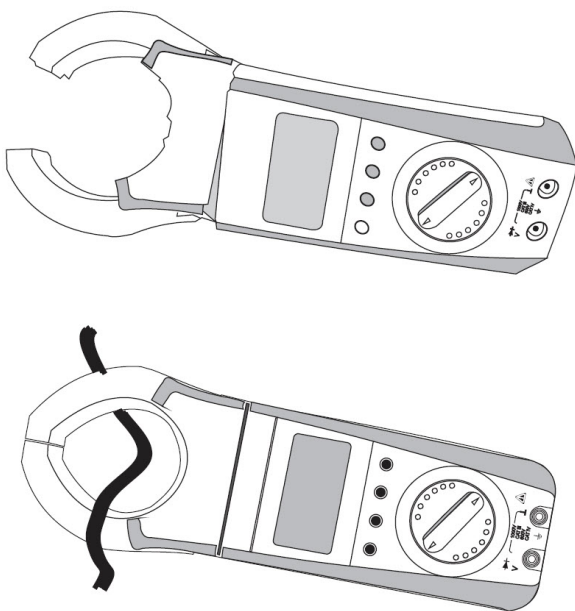

Fig. 8 Current measurement
- Connect the Clamp as shown in figure 8 for current measurement. To measure current through cable push the trigger (present at back) to open the jaws and clamp the jaws around the cable as shown in figure 8.